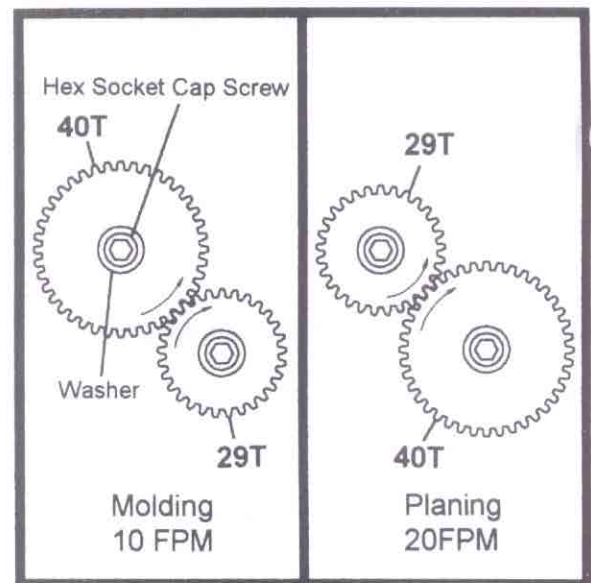

Fig. 3
4. Remove gears and position according to operation. See gear chart. (Fig. 3)